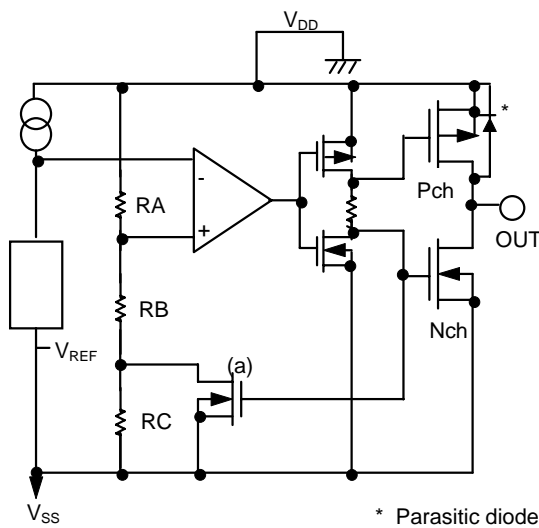
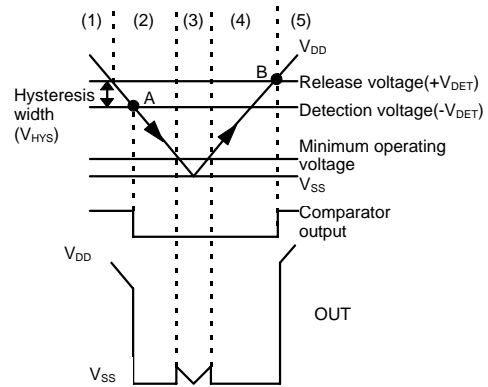

Figure 13
Figure 14
Hysteresis width is the voltage difference between a device's detection voltage and its release voltage (see Figure 14).  $V_{HYS}=B-A$ . By giving a device hysteresis, erroneous toggling of the output due to noise at the input is avoided.
- (1) When power supply voltage  $V_{DD}$  is greater than the release voltage  $+V_{DET}$ , the Nch transistor is OFF and the Pch transistor ON, causing  $V_{DD}$  (high) to appear at the output. With the Nch transistor of Figure 13 (a) off, the comparator input voltage is  $(RB+RC)/(RA+RB+RC) \times V_{DD}$ .
- (2) When power supply voltage  $V_{DD}$  goes below  $+V_{DET}$ , the output continues to maintain the power supply voltage level, as long as  $V_{DD}$  remains above the detection voltage  $-V_{DET}$ . When  $V_{DD}$  does fall below  $-V_{DET}$  (A in Figure 14), the Nch transistor goes ON, the Pch transistor goes OFF, and  $V_{SS}$  appears at the output. With the Nch transistor of Figure 13 (a) ON, the comparator input voltage is  $RB/(RA+RB) \times V_{DD}$ .
- (3) When  $V_{DD}$  falls below the minimum operating voltage, the output becomes undefined. However, output will revert to  $V_{DD}$  if a pull-up has been employed.
- (4)  $V_{SS}$  will again be output when  $V_{DD}$  rises above the minimum operating voltage.  $V_{SS}$  will continue to be output even when  $V_{DD}$  surpasses  $-V_{DET}$ , as long as it does not exceed the release voltage  $+V_{DET}$ .
- (5) When  $V_{DD}$  rises above  $+V_{DET}$  (B in Figure 14), the Nch transistor goes OFF, the Pch transistor goes ON, and  $V_{DD}$  appears at the output.